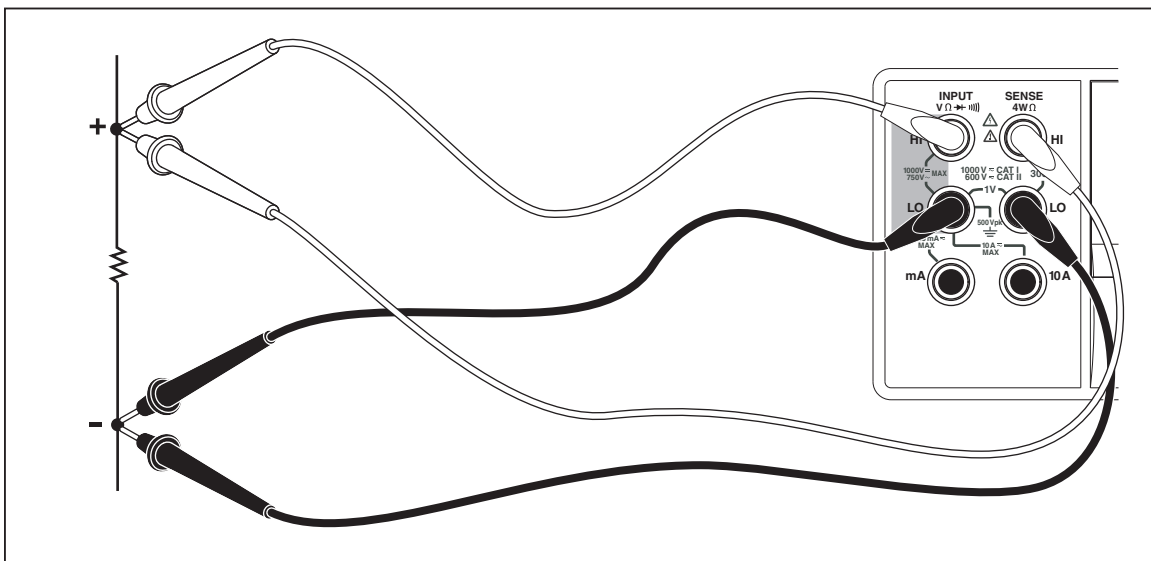

Figure 3-6. 4-Wire Resistance Measurement
1. Connect test leads between the Meter and the circuit under test as shown in Figure 3-6.